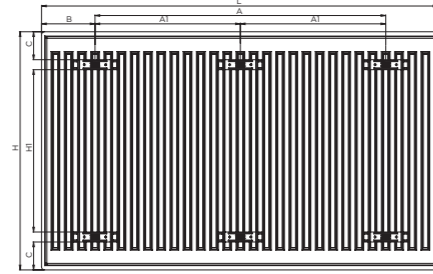

Figure 2: Marking the place where the bracket is located and installed.
- Position of the brackets is marked according to Figure 2 and Table 1. minimum distance between the radiator and the basement must not be less than 75% of the equipment depth.